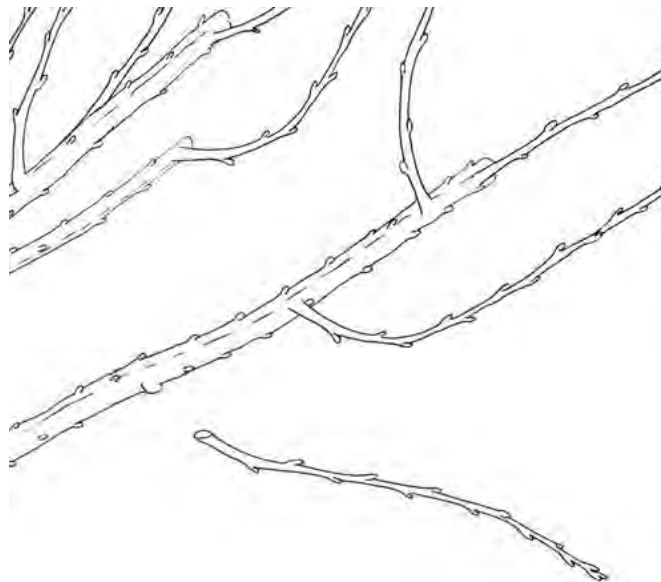

Figure 37
- Remove weak or pendent wood, which tends to overset and produce small fruit (Figure 37).